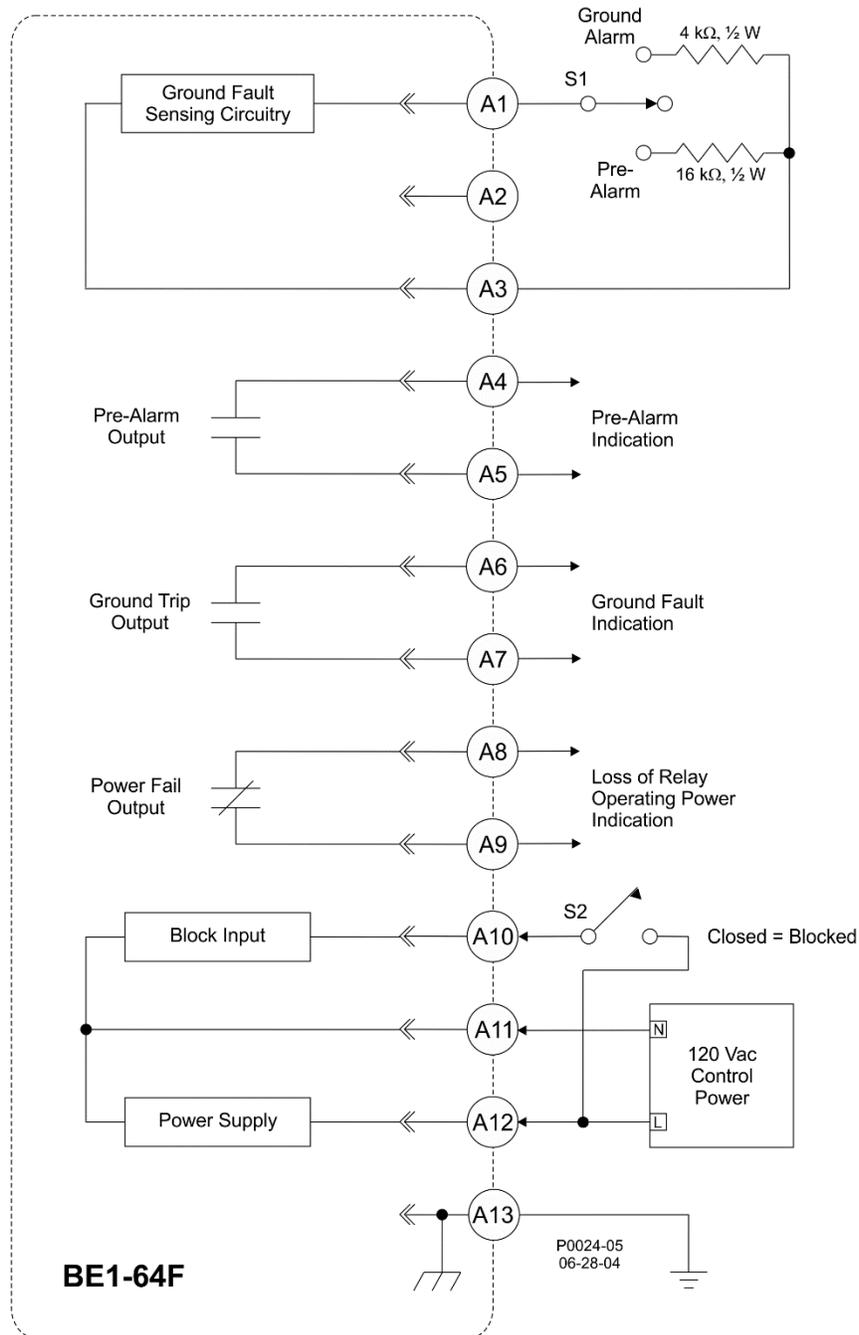

Figure 5-1. BE1-64F Test Setup
Prepare the relay for testing by making the connections shown in Figure 5-1. Set switches S1 and S2 in the positions indicated by Figure 5-1.
2. Return switch S1 to the position shown in Figure 5-1. The Pre-Alarm output contacts should open and the Alarm Output LED should turn off.
2. Return switch S1 to the position shown in Figure 5-1. The Ground Trip LED will remain lit until the Target Reset pushbutton is pressed.